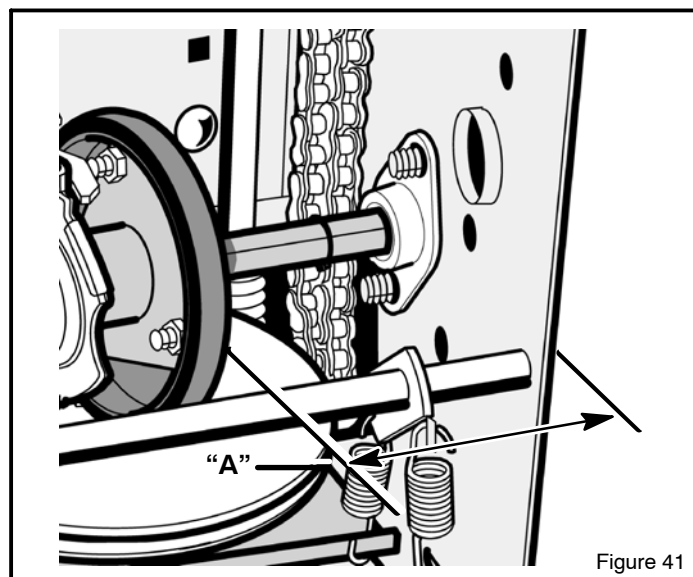

Figure 41
6. Note the position of the **friction wheel** (see Figure 41). The correct distance “A” from the right side of the **friction wheel** to the outside of the motorbox is as follows:
3. Move the **friction wheel** against to the correct position (see Figure 41).